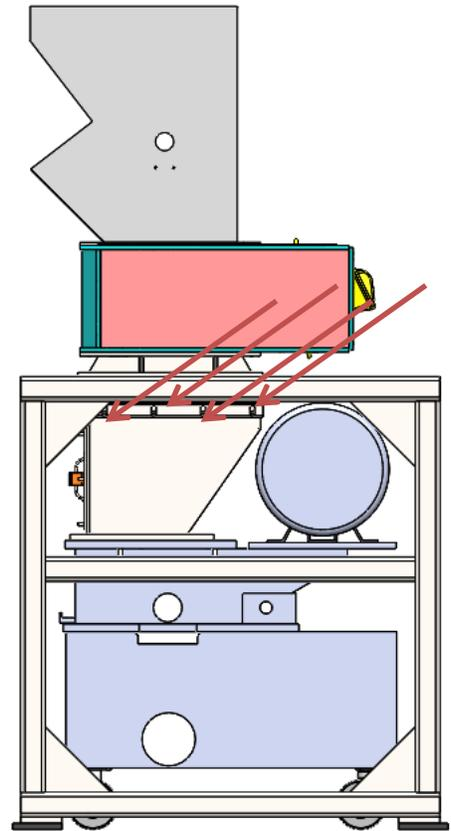

Figure 2
- 3).** In order to remove the main cutting chamber, first loosen the bolts around the sides of the mid-hopper sleeve; there are 12 bolts, located near the top of the mid-hopper. (See figure 2 on following page). There are four (4) bolts on front, left, and right, none on back.
- 11).** Secure the mid-hopper sleeve back into place using the 12 bolts that were loosened in step 2. (See figure 2 on following page).